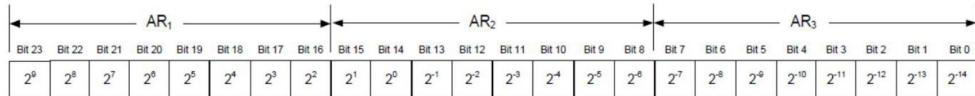

Figure 1 Converting the gyro angular velocity output to [$^{\circ}/\text{s}$]
1) Gyro angular velocity output [$^{\circ}/\text{s}$]= $\frac{AR_1 \cdot 2^{16} + AR_2 \cdot 2^8 + AR_3}{2^{14}}$ ata bit format is shown in Figure 1;